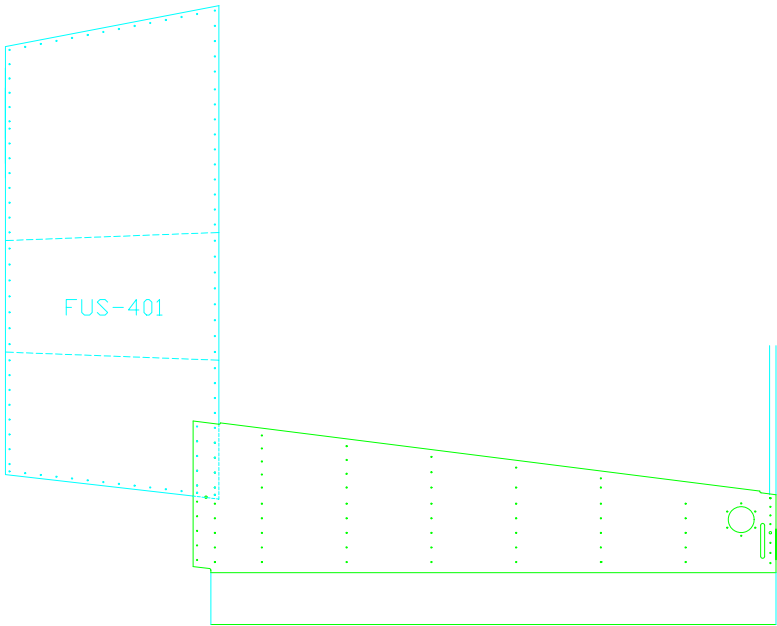

Figure 9.8.3
- 7) Cleco the FUS-401 Cabin Side Skins to the sills and the Station 9 bulkhead. Figure 9.8.3.